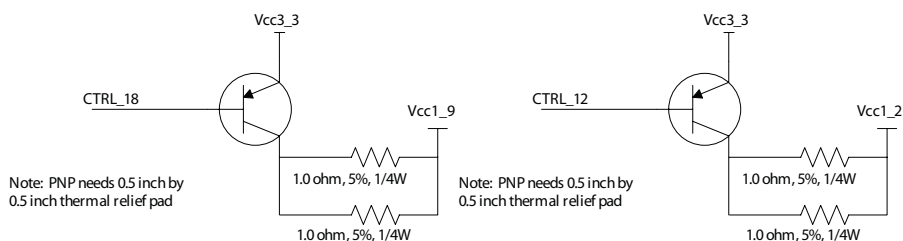
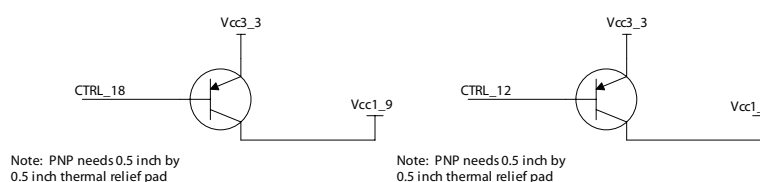

Figure 5. 82563EB 1.9V and 1.2V internal LVR schematic
Figure 6. 82564EB 1.9V and 1.2V internal LVR schematic
- The 82563EB/82564EB analog voltage (1.9V) will never exceed the 3.3V supply at any time during the power up. This is because the 1.9V supply is generated from the 3.3V supply when using the internal voltage regulator control logic (see Figure 5 and Figure 6 for a schematic of the internal LVR circuit). The 1.9V supply will track the 3.3V ramp.
- The 82563EB/82564EB core voltage (1.2V) will never exceed the 3.3V at any time during the power up. This is because the 1.2V supply is generated from the 3.3V supply when using the internal voltage regulator control logic (see Figure 5 and Figure 6 for a schematic of the internal LVR circuit). The 1.2V ramp is delayed internally to prevent it from exceeding the 1.9V and 3.3V supply at any time. The delay is proportional to the slope of the 3.3V ramp.
The effective resistance of the pass resistors should be approximately  $0.5 \Omega$  and have a combined power dissipation rating of 0.5 Watts for the 82563EB. Figure 5 shows the recommended implementation.
**Note:** No resistors are required for the 82564EB as shown in Figure 6 due to the reduction in current demand. See Figure 4.9 for more details regarding power consumption.